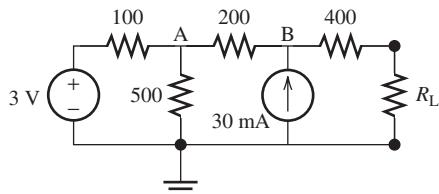

FIGURE P3.66 Circuit for Problem 3.66.
- 3.66 (H)** If $R_L = 0$, which source in Figure P3.66 contributes the most to the power dissipated in the 500-Ω resistor? Which contributes the least? What is the power dissipated in the 500-Ω resistor? Does it equal the sum of power dissipation contributed by each source?